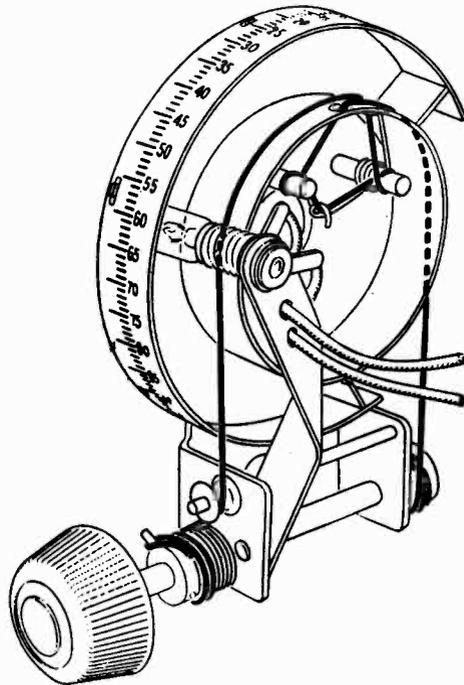

Figure 17—Gang tuning condenser drive mechanism and cable
- (c) By referring to Figure 17 the new cable may be placed in the position occupied by the old one.